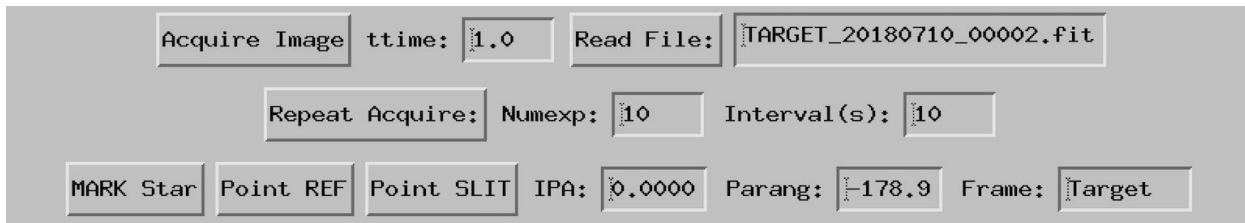

Figure 17. Cut-out section of the slitviewgw GUI showing the image and pointing controls.
- 1) **Acquire Image**: Takes an image, with integration time set in 'time' (Figure 17). The file name is written to the following field, with the format 'TARGET_20180706_00096.fit'.